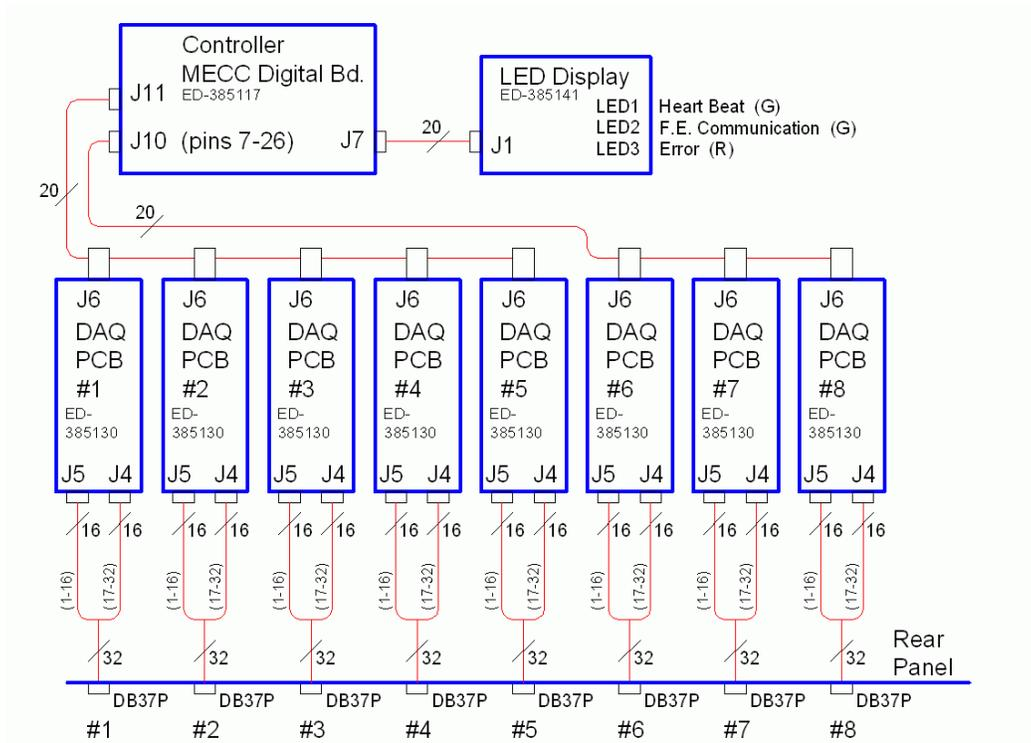

Figure 1. MECC system board wiring diagram. The only board not shown is the 5 V regulator.
The circuit boards from which the voltage monitor is built are those of the MECC system (Modular Ethernet Configurable Controller). Refer to the MECC Manual for a more comprehensive description of these boards. Three boards of the MECC system are used: the digital controller board (ED\_385117), the DAQ boards (ED-385130) and the LED display board (EC-385141). Figure 1 is the chassis wiring diagram. Figures 2 and 3 are photos of the inside of the chassis.
The digital board controls the converters on each DAQ board by means of only four wires to each converter. These four wires are those defined by the SPI convention. (See the Wikipedia description of SPI for more information on this standard.) In this chassis, the SPI “master” is the MECC digital board, and the SPI devices are the A/D converters on the DAQ boards. The three serial lines that are in common with all these SPI devices are the clock (SCLK), the serial master data out (MO) and the serial master data in (MI). There is a fourth wire (a “chip select”) that is unique to each device. There needs to be, therefore, a total 16 chip select (CS) lines to the eight DAQ boards. For the controller to communicate with all 16 ADCs, two cables and connectors are used, J10 and J11, shown in Figure 1. The manner that these two ribbon cables are connected between the controller board and eight DAQ boards can be seen in the photo of Figure 2.